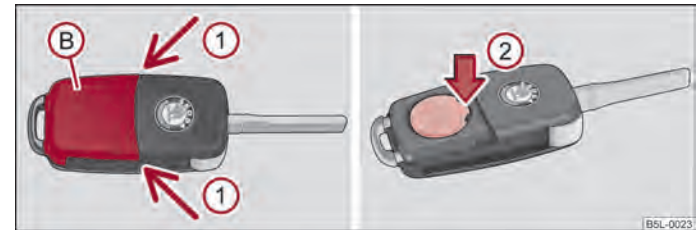

Fig. 10 Remote control key - remove cover/remove battery
Each remote control key contains a battery which is housed under the cover (B) ⇒ fig. 10. If the battery is discharged, the red warning light (A) does not flash after you press a button on the remote control key ⇒ fig. 9. We recommend that you have the batteries of the key replaced by an authorised ŠKODA Service Partner. You should, however, proceed as follows if you wish to replace the discharged battery yourself:
- Press off the battery cover with your thumb or using a flat screwdriver at the points of the arrows ① from ⇒ fig. 10.
- Remove the discharged battery from the key by pressing the battery downwards at the point of the arrow ② ⇒ fig. 10.